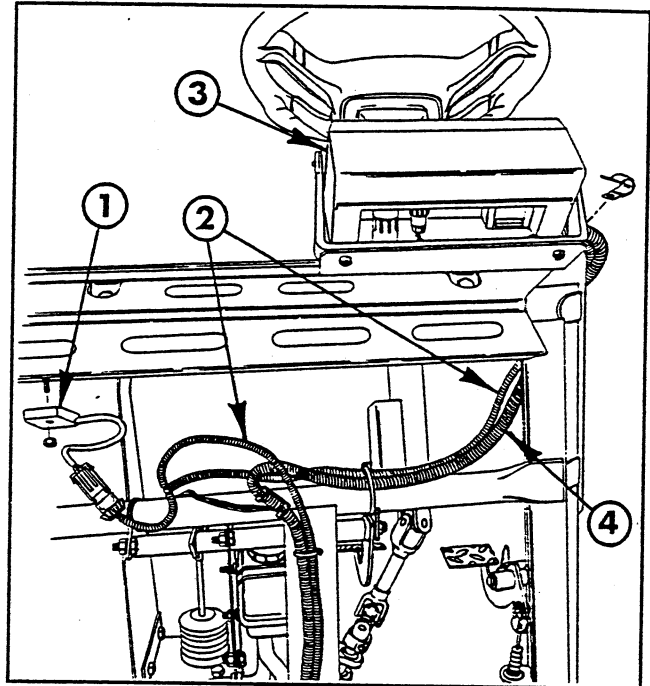

FIG. 7
18. Connect the console control cable plug to the back of the console. Route the control cable under the dash and through the opening in the floorboard (FIG. 7). Loosen the bolts on the channel under the floorboard and feed the cable through the channel. Connect the extension cable to the console cable and route along the left side of the vehicle to the rear of the vehicle frame.
floor (FIG. 7). Route the remaining cable along the left side of the vehicle and connect to the speed sensor located on the top of the transaxle.
20. Locate and mount the frequency divider using the #8 x 1-1/4" machine screw and #8 nut in the existing hole found on the underside of the top dash support frame. See FIG. 7.
21. Plug the connector from the speed sensor cable into the frequency divider (FIG. 7).
27. Remove the (2) screws that hold the console and console mounting bracket to the vehicle.
28. Reinstall the hood and remount the console and console mounting bracket using the 15 screws and washers earlier removed and install the "R" clamp on the console control cable and secure (FIG. 7).